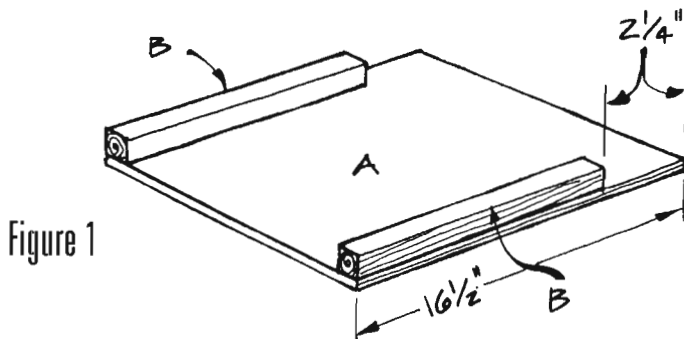

Figure 1
2. Cut four corner supports (B) from 2 x 2 pine, each 14-1/4 inches long.
3. Refer to *Figure 1*, and attach one corner support (B) flush with each 16-1/2-inch edge of one side (A). Note that the corner support (B) is positioned flush at one end and is 2-1/4 inches short at the other end, as shown in *Figure 1*. This 2-1/4 inch gap will accommodate the addition of the bottom of the chest and the supports underneath.